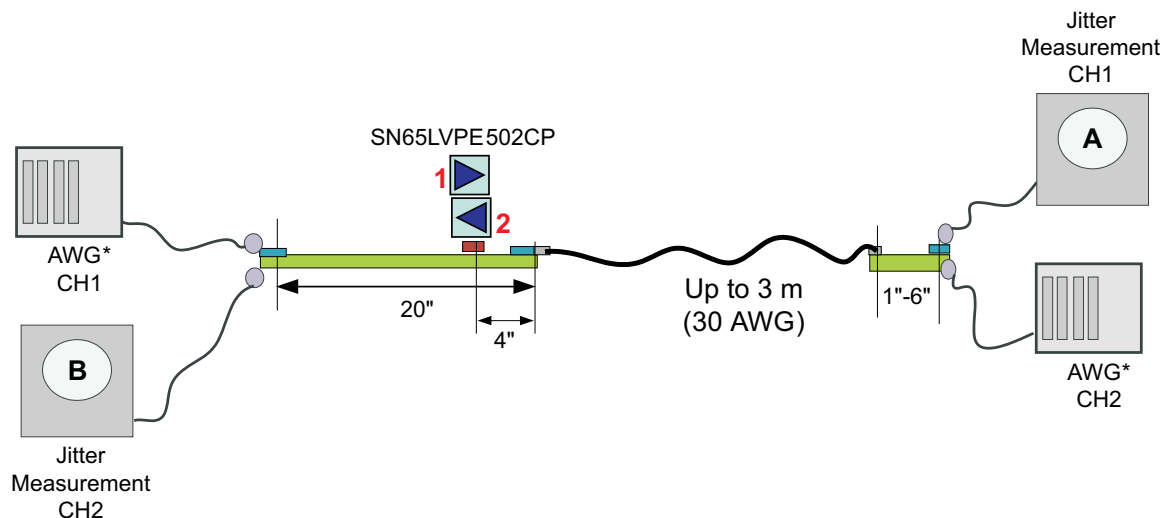

Figure 6. Jitter Measurement Setup
(1) Includes RJ at 10^{-12} BER
(2) Deterministic jitter measured with K28.5 pattern, Random jitter measured with K28.5 pattern at the ends of reference channel in Figure 6, VID=1000mVpp, 5Gbps, -3.5dB DE from source
(3) UI = 200ps
(4) Rj calculated as 14.069 times the RMS random jitter for 10^{-12} BER